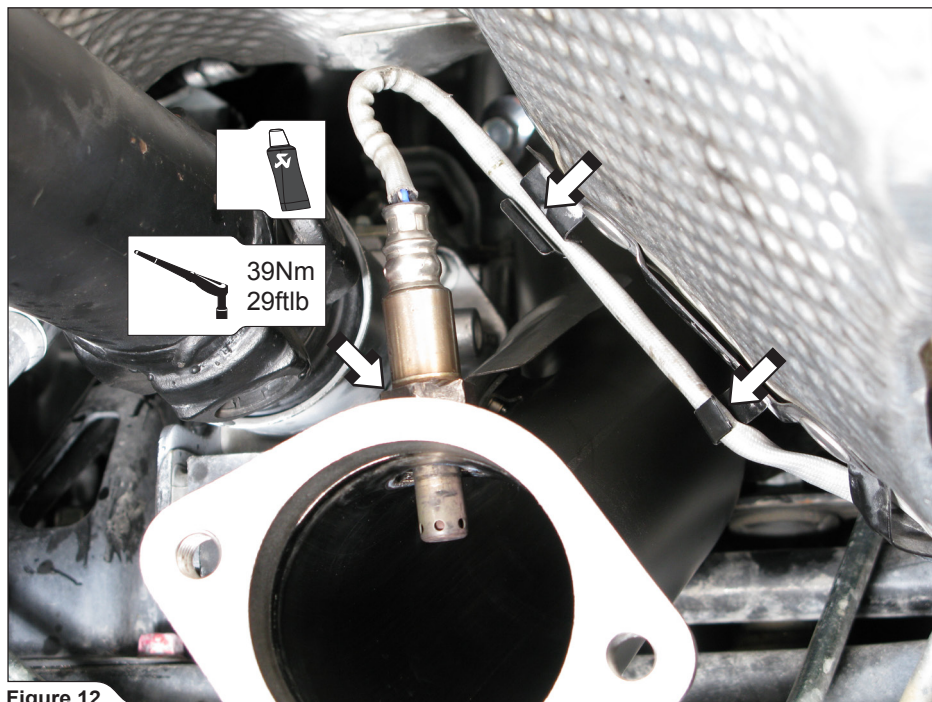

Figure 12
3. **For optional Down-Pipe only:** install the lambda sensor and fasten the lambda sensors' electrical lead (**Figure 12**).